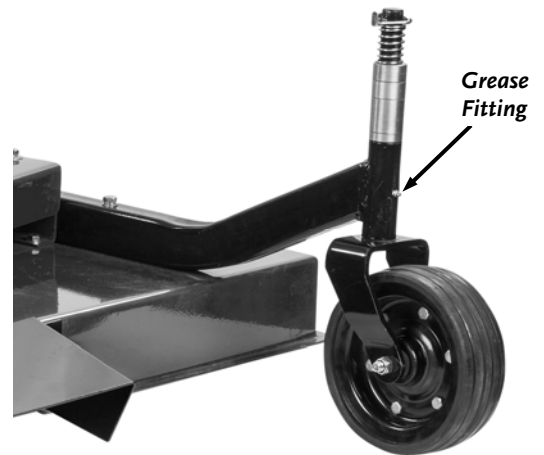

Figure 17
1. Wipe all dirt, etc., from the Wheel Support fitting with a clean cloth (**Figure 17**).